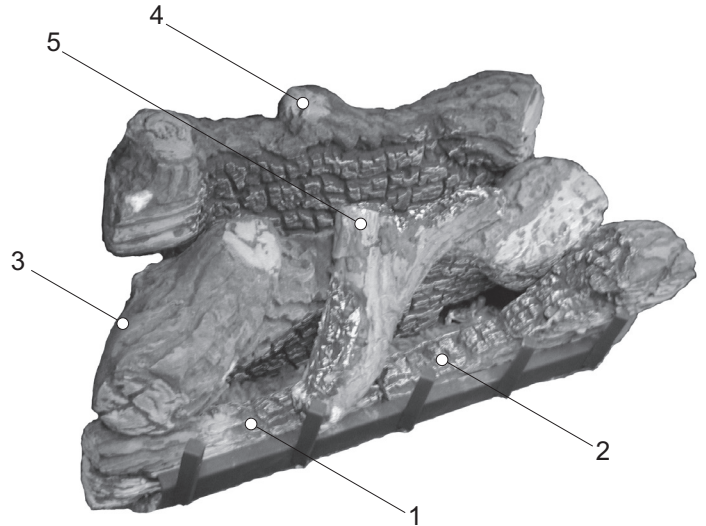
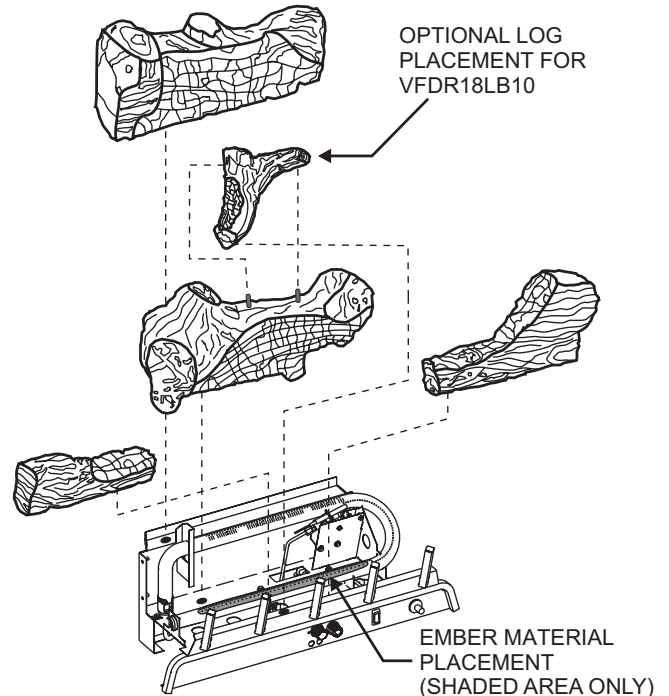
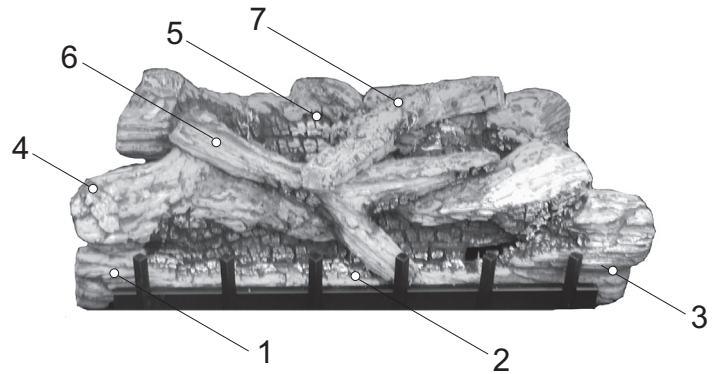
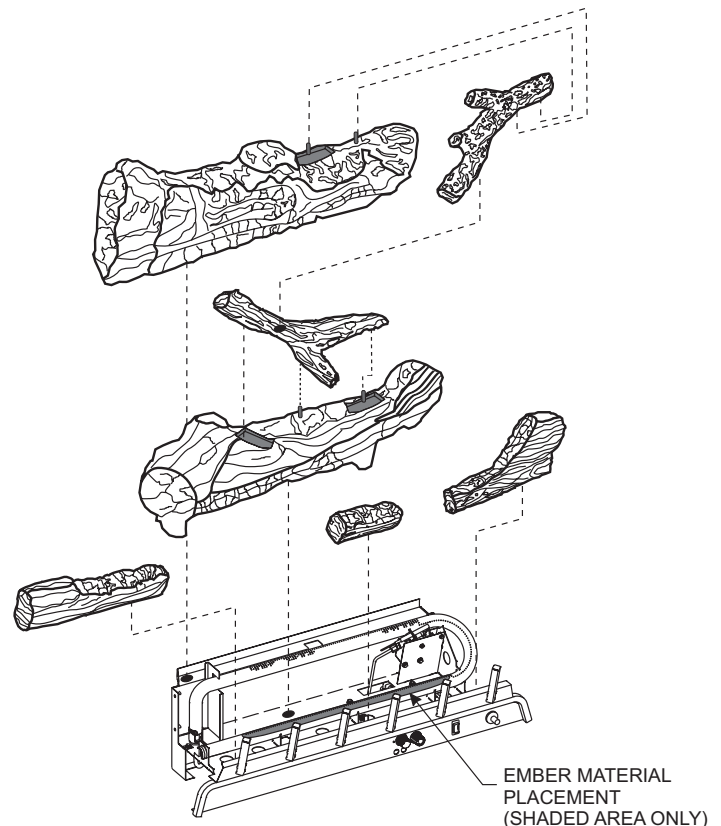

Figure 11
Figure 12
Figure 13
Figure 14
The positioning of the logs is critical to the safe and clean operation of this burner assembly. Sooting and other problems may result if the logs are not properly and firmly positioned on the burner assembly. Refer to **Figure 11** and **Figure 12** and corresponding **'WARNING:'** when completing following log placement instructions.
5. After all logs are positioned properly, apply Rockwool ember material to the front burner port area. To apply, carefully separate the ember material into small amounts no larger than "dime size" pieces. Fluffed up pieces one layer thick on top of the burner generally works best, and will provide the best ember glow. Do not place ember material more than one layer thick. No more than (2) two small packets of ember material (part no. 15998) evenly placed on the burner, is recommended on VFDR18 and VFDR24 models. Using additional ember material will decrease the amount of ember glow effect. Extra ember material should be saved for future ember applications as necessary. **See Figure 12.**
**Attention:** Do not use Figure 12 or Figure 13 to order logs. Refer to Parts Lists and Parts Views to order logs and/or ember material for your appropriate model.
The positioning of logs is critical to safe and clean operation of this burner assembly. Sooting and other problems may result if the logs are not properly and firmly positioned on the burner assembly. Refer to **Figure 13** and **Figure 14** and corresponding **WARNING**: when completing following log placement steps.
6. After all logs are properly positioned, place small "dime" size pieces of Rockwool lightly across the front burner tube ports. Place the ember material (Rockwool pieces) side by side. Do not stack more than one layer of embers across the burner ports. No more than (1) one packet of ember material (part number 15999) evenly placed on the burner, is recommended on VFDR30 models. **See Figure 14.**
**Attention:** Do not use Figure 13 or Figure 14 to order logs. Refer to Parts Lists and Parts Views to order logs and/or ember material.